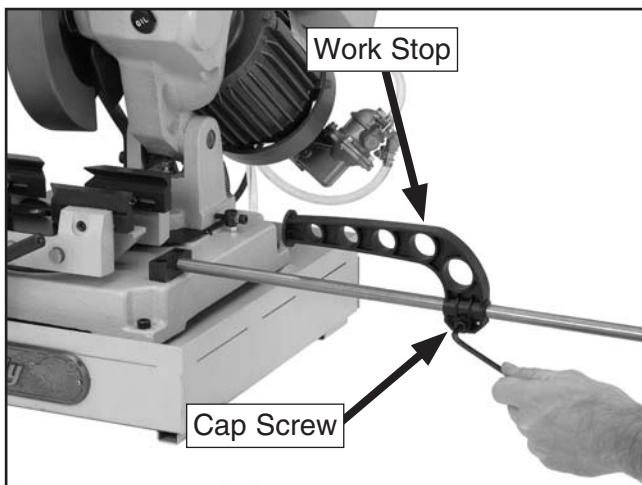

Figure 12. Work stop adjustment.
2. Loosen the work stop cap screw (**Figure 12**).